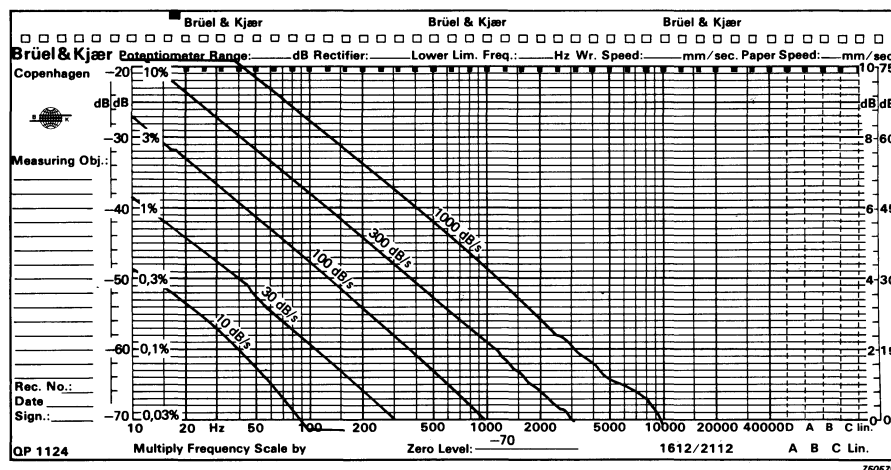

Fig.3.8. Typical third harmonic distortion as a function of COMPRESSOR SPEED and frequency. The second harmonic is approximately 10 dB lower
6. The distortion of the generator output is related to both the COMPRESSOR SPEED and the frequency as indicated in Fig.3.8.